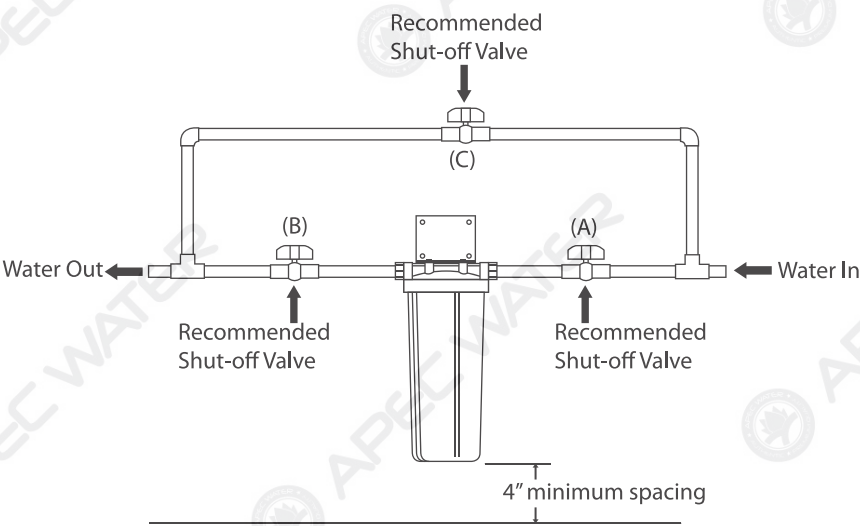

Fig.1A
3. Whole house water filter setup (Fig 1A,2A,3A):
NOTE: It is recommended that the shut-off valves are placed before and after the filter as shown in the Installation Overview illustration. **See Fig.1A, 2A, and 3A, Page 3.**
1. Turn off water to the filter. Water must be shut off from **Valve A** and **Valve C** if they are installed. **See Fig. 1A, 2A, and 3A**, Page 3.